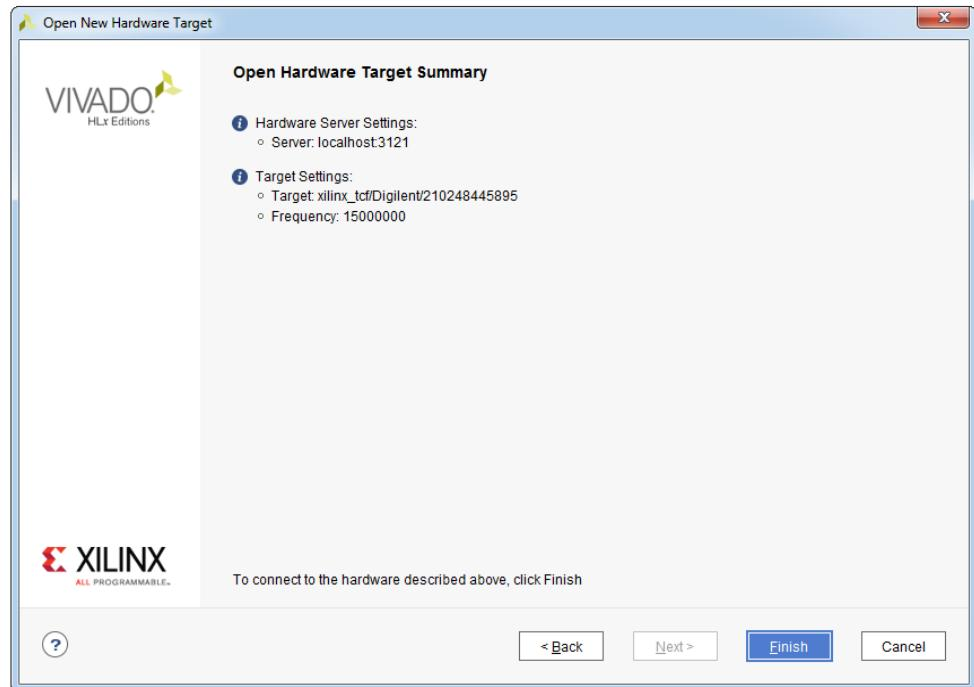

Figure 10.39: Open Hardware Target Summary dialog box
11. In the **Open Hardware Target Summary** dialog box, click **Finish** to connect to the hardware described in the summary window, see Figure 10.39.